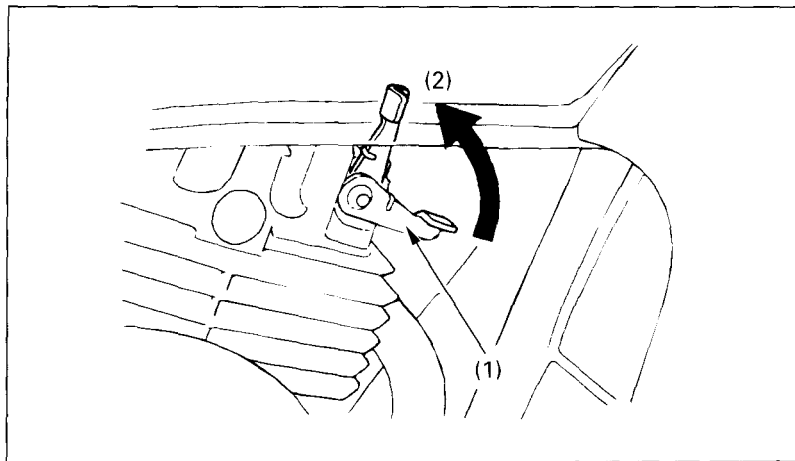

Fig. 2-10 (1) Decompression lever (2) "Decomp" position
4. Raise the decompression lever (Fig. 2-10), located on the right side of the engine, to the "Decomp" position (2).